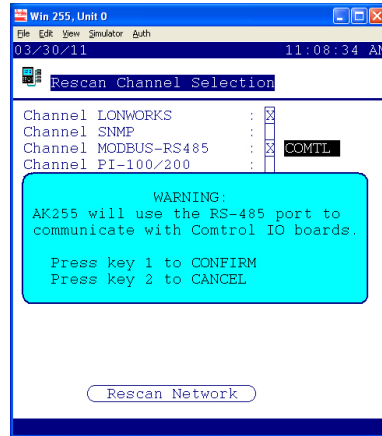

Figure 5
- 3b Configure the Modbus channel under the Communications / I/O Network / Rescan Channels page. If Danfoss AK I/O boards are also to be used, ensure the channel 'LonWorks' is checked also. *Figure 5*